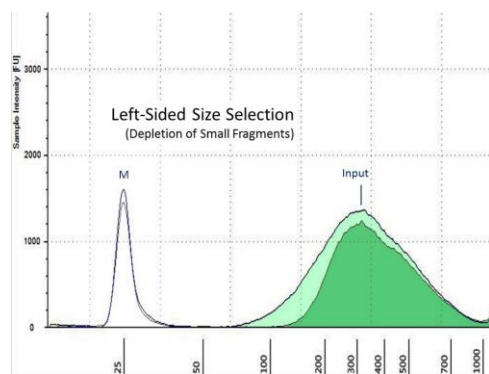

Figure 1
- **Principle of Technology:** The Select-a-Size DNA Clean & Concentrator MagBead Kit works on the principle of selective binding, wherein the size of the nucleic acid and the ratio of the magnetic beads controls what is retained on the beads and what remains in the supernatant. Either fraction (beads or supernatant) can be further purified which is an enabling and flexible feature of this technology. As the ratio of MagBeads to sample increases, proportionally lower molecular weight DNA (smaller fragments) are retained. Therefore, the size selection is controlled by increasing or decreasing quantities of magbeads. Samples can be size selected to remove smaller fragments with Left-Sided Size Selection (Figure 1), larger fragments with Right-Sided Size Selection (Figure 2), or both large and small fragments in Double-Sided Size Selection. Listed within this protocol are the most common cutoffs and starting sample volumes. Cutoffs not included within this protocol can be determined by titrating between points.